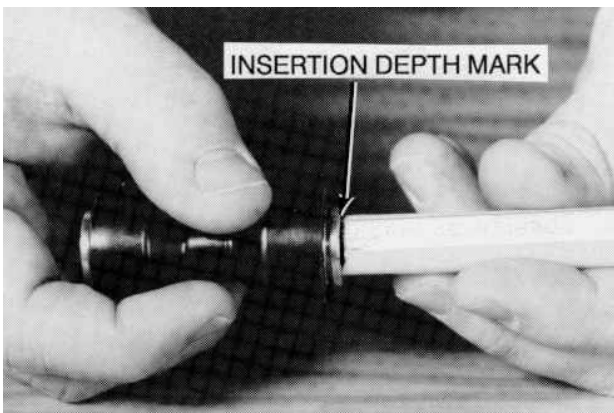

Figure 115 A Secure Fitting
3. Lubricate the tube and install it to the correct insertion depth. Install the tube by pushing it straight into the fitting. The insertion depth mark should be flush with the face of the fitting (Figure 115). Gently tug on the tube to make sure it is secured in the fitting.